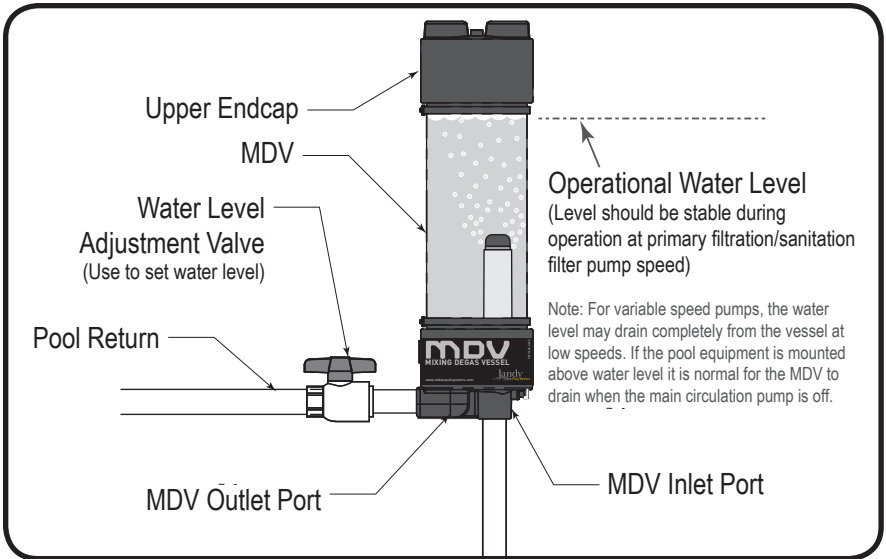

Figure 7. MDV Water Level Adjustment
- a. On the return line make sure to plumb the water level adjustment ball valve. See "Figure 7. MDV Water Level Adjustment".
25. While in operation the water level in the MDV should be level with the bottom edge of the upper MDV endcap. See “Figure 7. MDV Water Level Adjustment”.